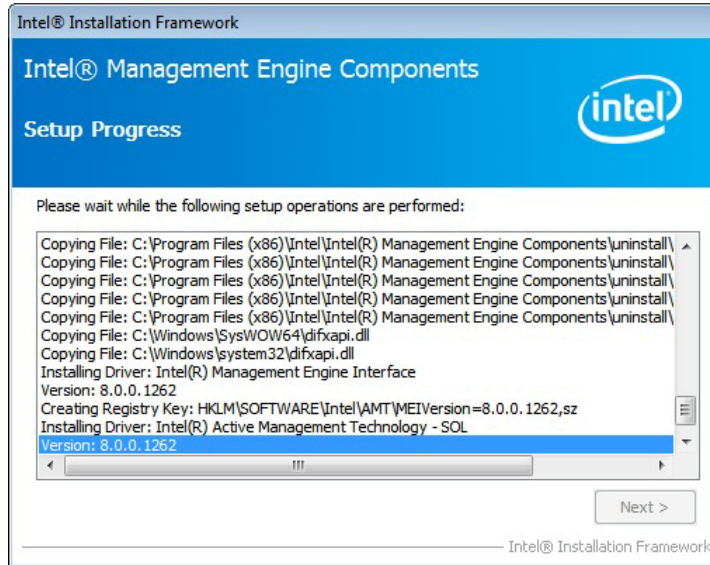

Figure 6-34: Intel® ME Driver Setup Operations
Step 9: Setup Operations are performed as shown in **Figure 6-34**.